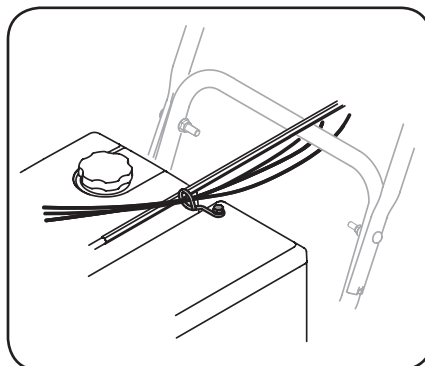

Figure 2-20
9. It is important that all cables be routed through the cable guide and remain positioned on the left side of the chute control rod. See Figure 2-20.
5. Check that cables are properly routed through cable guide on top of engine. See Figure 2-20.
10. Check that all cables are properly routed through cable guide on the left side of the flex shaft. See Figure 2-20.